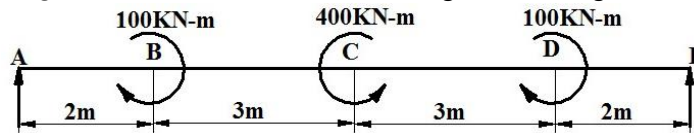

Figure 29
20. For the beam shown in **Figure 29**. Draw shear force and bending moment diagram